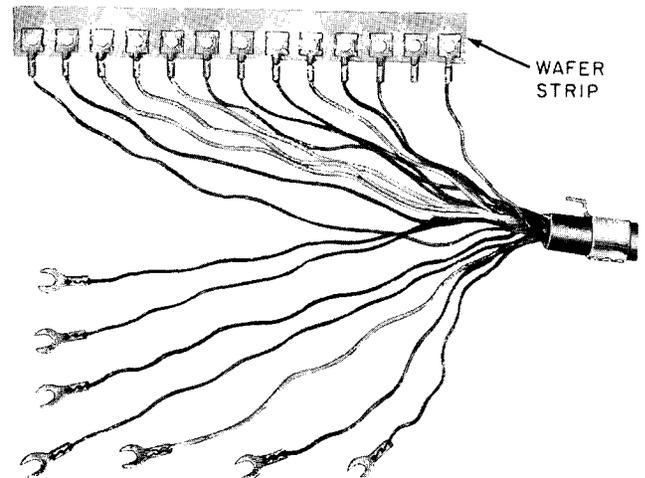

Fig. 1—Nonslotted Wafer Strip End of Mounting Cord, Early Type
2.04 Replace mounting cord of early manufacture (Fig. 1) as follows: